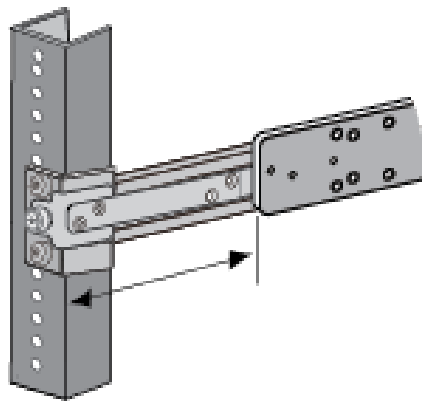

Figure 95. Verifying the Length of the Extension Bracket
- Measure the distance from the front of the equipment rack to the front of the inner rail. Refer to Figure 95. This should approximately match the value you measured in “Measuring the Extension Bracket Lengths” on page 146.